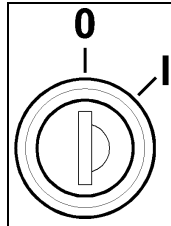

Fig. 21
- Insert the key in the key switch (Fig. 21).